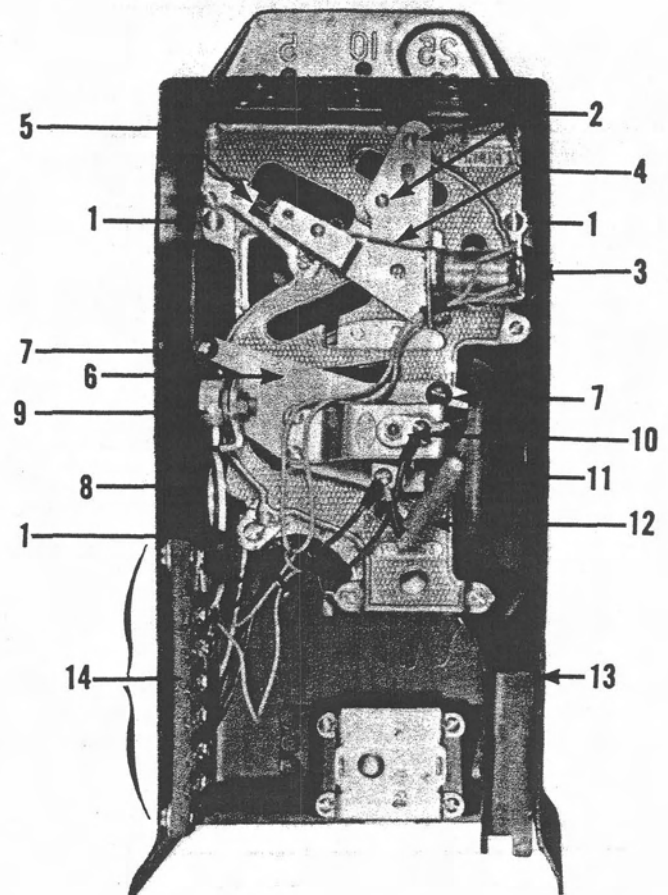
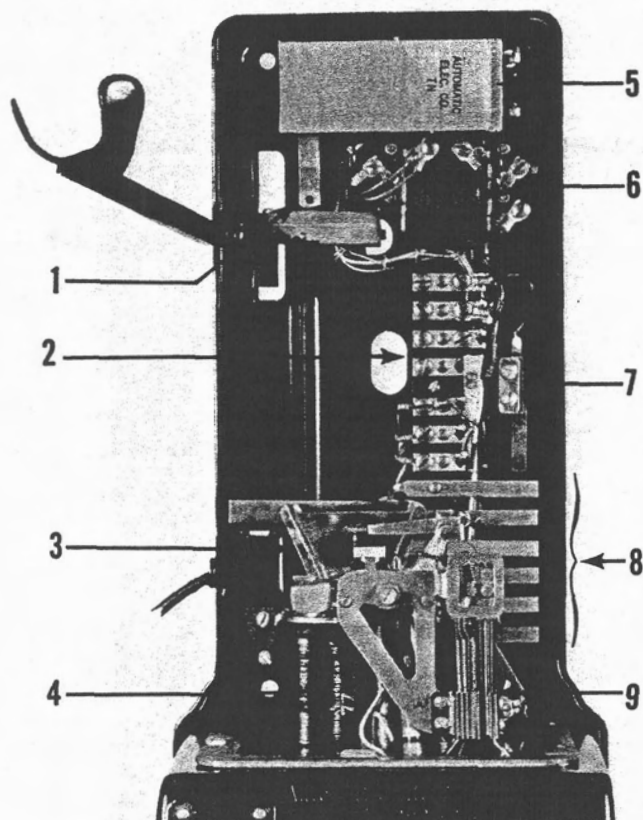

Figure 4. Upper housing.
Figure 5. Lower housing (upper housing removed).
3.2 Coin chute. The coin chute is mounted inside the upper housing directly below the coin gauge. See figure 4. The three channels are designed so that only the correct coin in the correct channel will operate the mechanism. All three channels end directly over the mouth of the coin hopper (figure 5). The lugs which hold the coin chute to the upper housing are part of a framework welded to the upper housing, which constitutes the coin return chute. Rejected coins fall down this chute to the coin return slot on the lower housing.
3.6 Ten cent service dime-only control. Paystations such as the LPB 86-10 have a nickel rejector to provide "dime-only" local service. The nickel rejector consists of a modified relay, mounted on the back of the coin chute as in figure 4. The long armature arm engages the pivoted-wire rejector loop with its notched end. The rejector loop mounts beside an opening in the nickel channel so that the long part of the loop lies in and across the channel when the relay is restored. In this